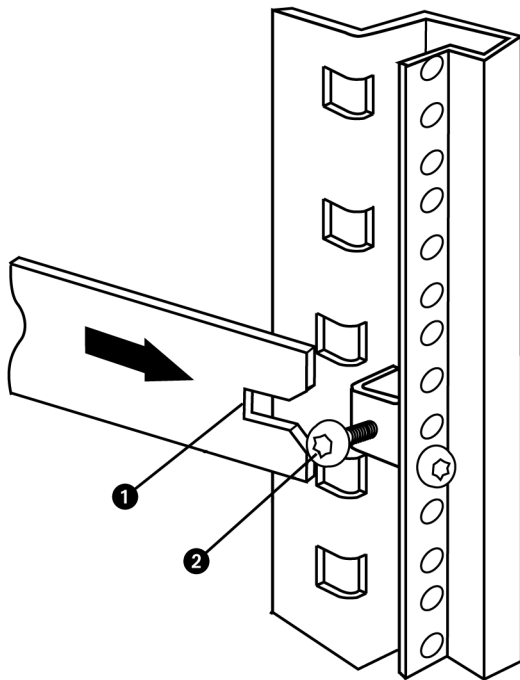
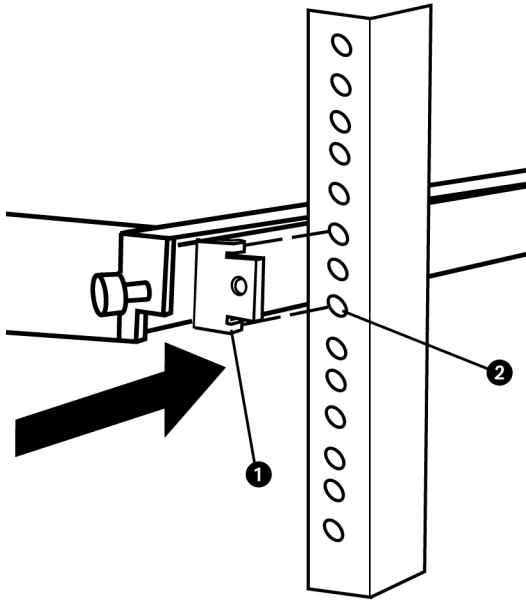

Figure 27 Positioning the sliding shelf bracket on a rail rear slot
Figure 28 Positioning the sliding shelf bracket at the rack front
6. Insert the shelf into the rack so that both rail rear slots (❶) slide over the loose screws (❷) on the inside face of each bracket (Figure 27).
7. Make sure that the sliding shelf and rails are horizontal (Figure 28) at the rack front.
8. Push each of the rail front tabs (❶) into the corresponding holes on the rack columns (❷).
9. At the back of the rack, tighten the screws that attach the sliding shelf rails to the mounting brackets (Figure 27 ②).